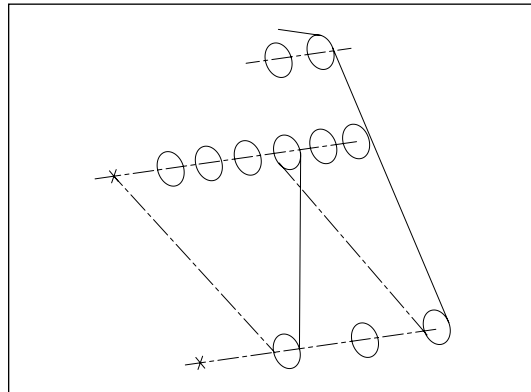

Figure9-30f: Four-magnification crossing and winding schematic
6. When lift weight with a four magnification, cross and wind steel wire rope according to the method as shown in Figure9-30f.